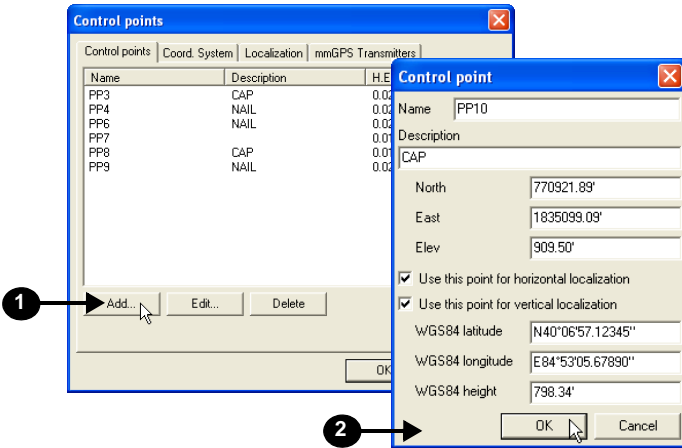

Figure 9-11. Add Control Point
1. Click **Project** ► **Control points** then click **Add** on the *Control points* tab (Figure 9-11).
2. Enter the following information and click **OK** (Figure 9-11):